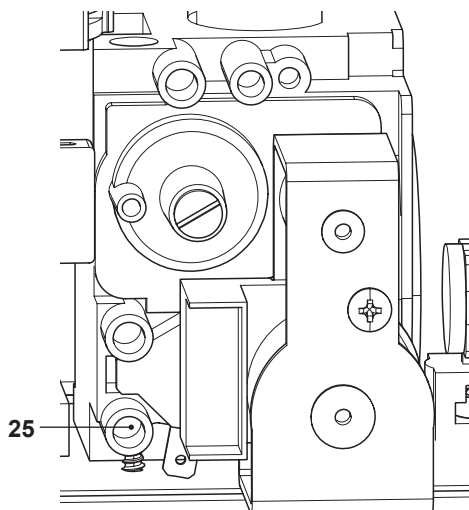

Fig. 7.8
- With the boiler switched on at full rate (maximum output power), check the supply pressure by using the 25 point in Fig. 7.8 and compare the value with that reported on the Gas supply pressure table (minimum inlet pressure) in section "Technical data BASICA COND 28S (M275V.28 SR)" on pag. 24.
- Ensure the test nipple 25 in Fig. 7.8 is firmly closed.